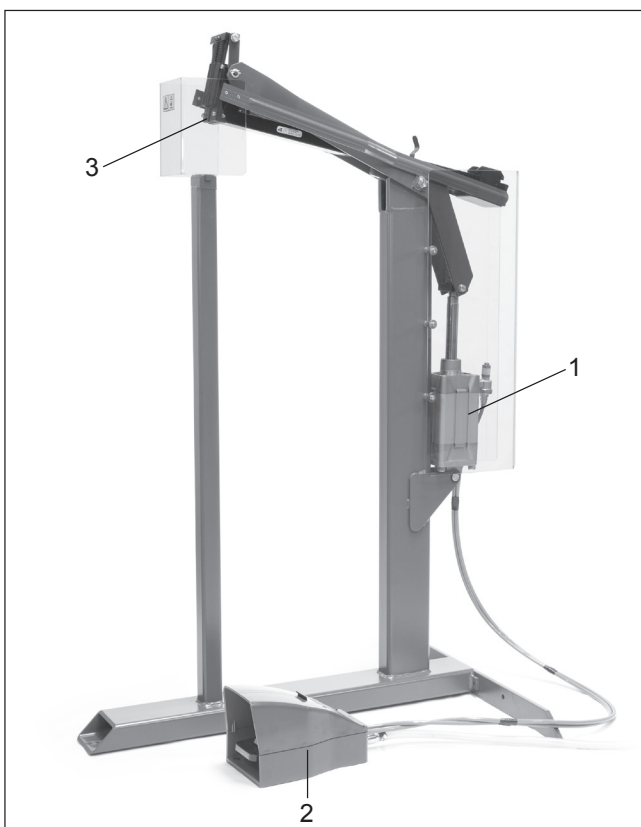

Fig. 2
1. The pressure cylinder (Fig. 2/1) is activated by the foot valve (Fig. 2/2).
2. When you press the foot valve the cylinder presses the stapling head (Fig.2/3) against the manually positioned carton.